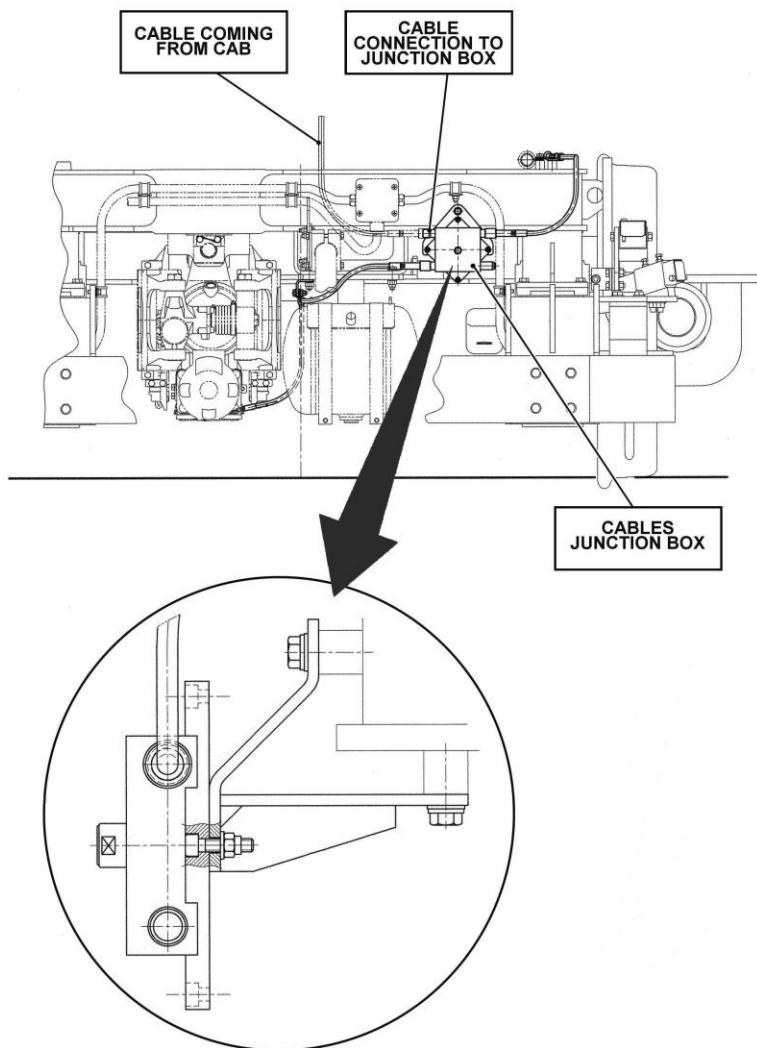

Figure 12 - PARKING BRAKE RELEASING WITH TRUCK REMOVED
- b. Parking Brakes Manual Release** (refer to previous Fig 12)